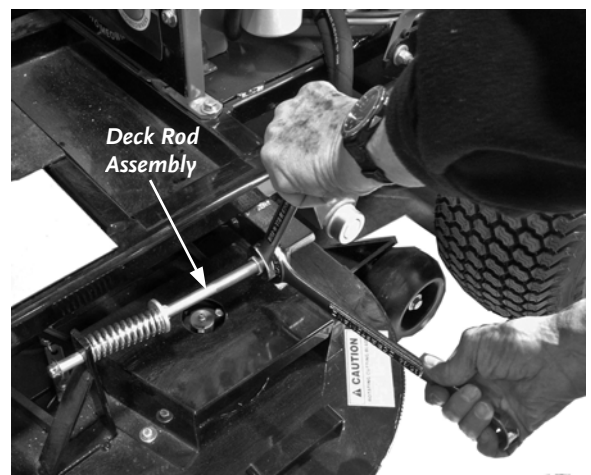

Figure 12a
1. Using the 3/4" Wrenches, loosen the two (2) Adjusting Nuts on the Deck Rod Assemblies on each side of the Deck (**Figure 12a**).